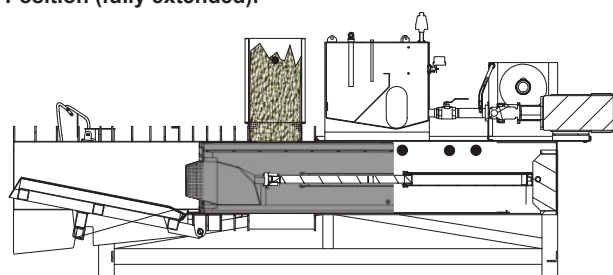

Figure 26 - Product Reaches Level Detector
2. **MATERIAL REACHES LEVEL DETECTOR** The level detector (see Level Detector Adjustments - Pg. 23) will send a signal to the IQAN Module program when PROX 1 has been activated by product being sensed for more than 1 second (see Figure 26). The plunger will retract according to PRODUCT DELAY pot #1 (see Potentiometer Adjustments Pg. 22 for adjustments). When the plunger activates PROX 4, the plunger speed is reduced.